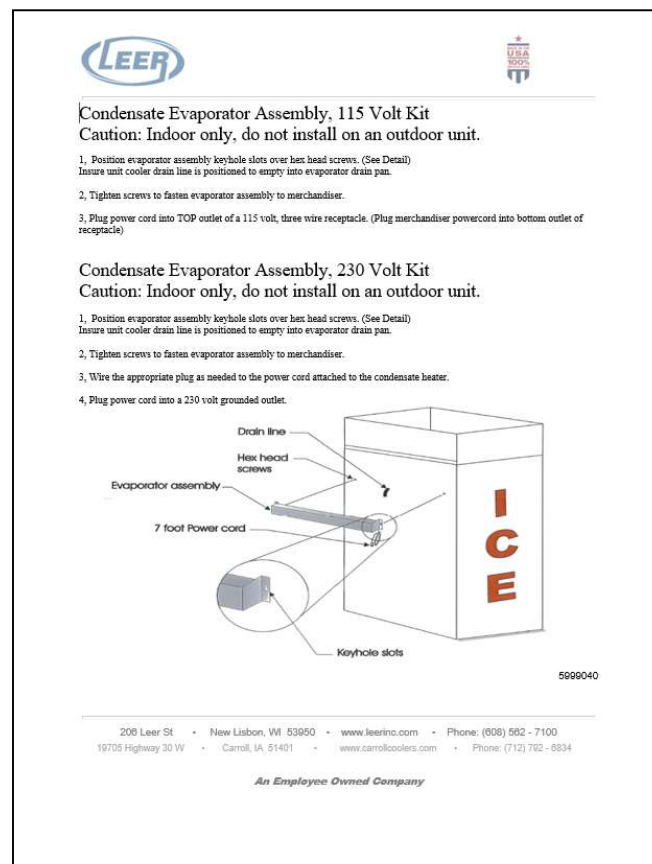

Figure 2: Condensate Evaporator Installation
Condensate Evaporator: Indoor auto-defrost models are supplied with a condensate evaporator heater assembly which is packaged with instructions and shipped inside the merchandiser. It will require simple installation by the consumer (see Figure 2). A separate copy of this instruction sheet is supplied with the condensate evaporator assembly. The condensate evaporator assembly contains a drip pan to collect water generated by the merchandiser’s defrost cycle and a heat element to evaporate the water. Once energized, the heat element in the condensate evaporator assembly is continuously generating heat. The merchandiser is to be placed so that there is at
3) Place Thrust Washer and Stationary Bushing over square pin in the Hinge and insert the Adjustment Pin into the Adjustment Collar. Using the Adjustment Pin, compress the Spring and place the Adjustment Collar over the round pin (Fig. 2).